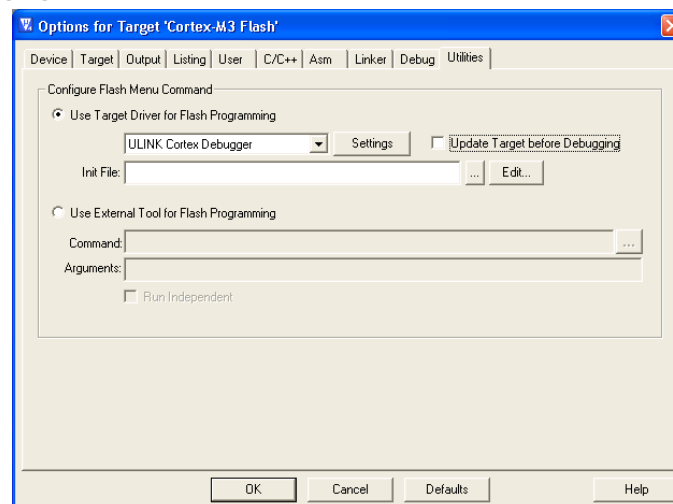

Figure 34 · Clear Update Target Before Debugging
15. Click **OK** to close the Options for Target dialog box (Figure 34 ·).